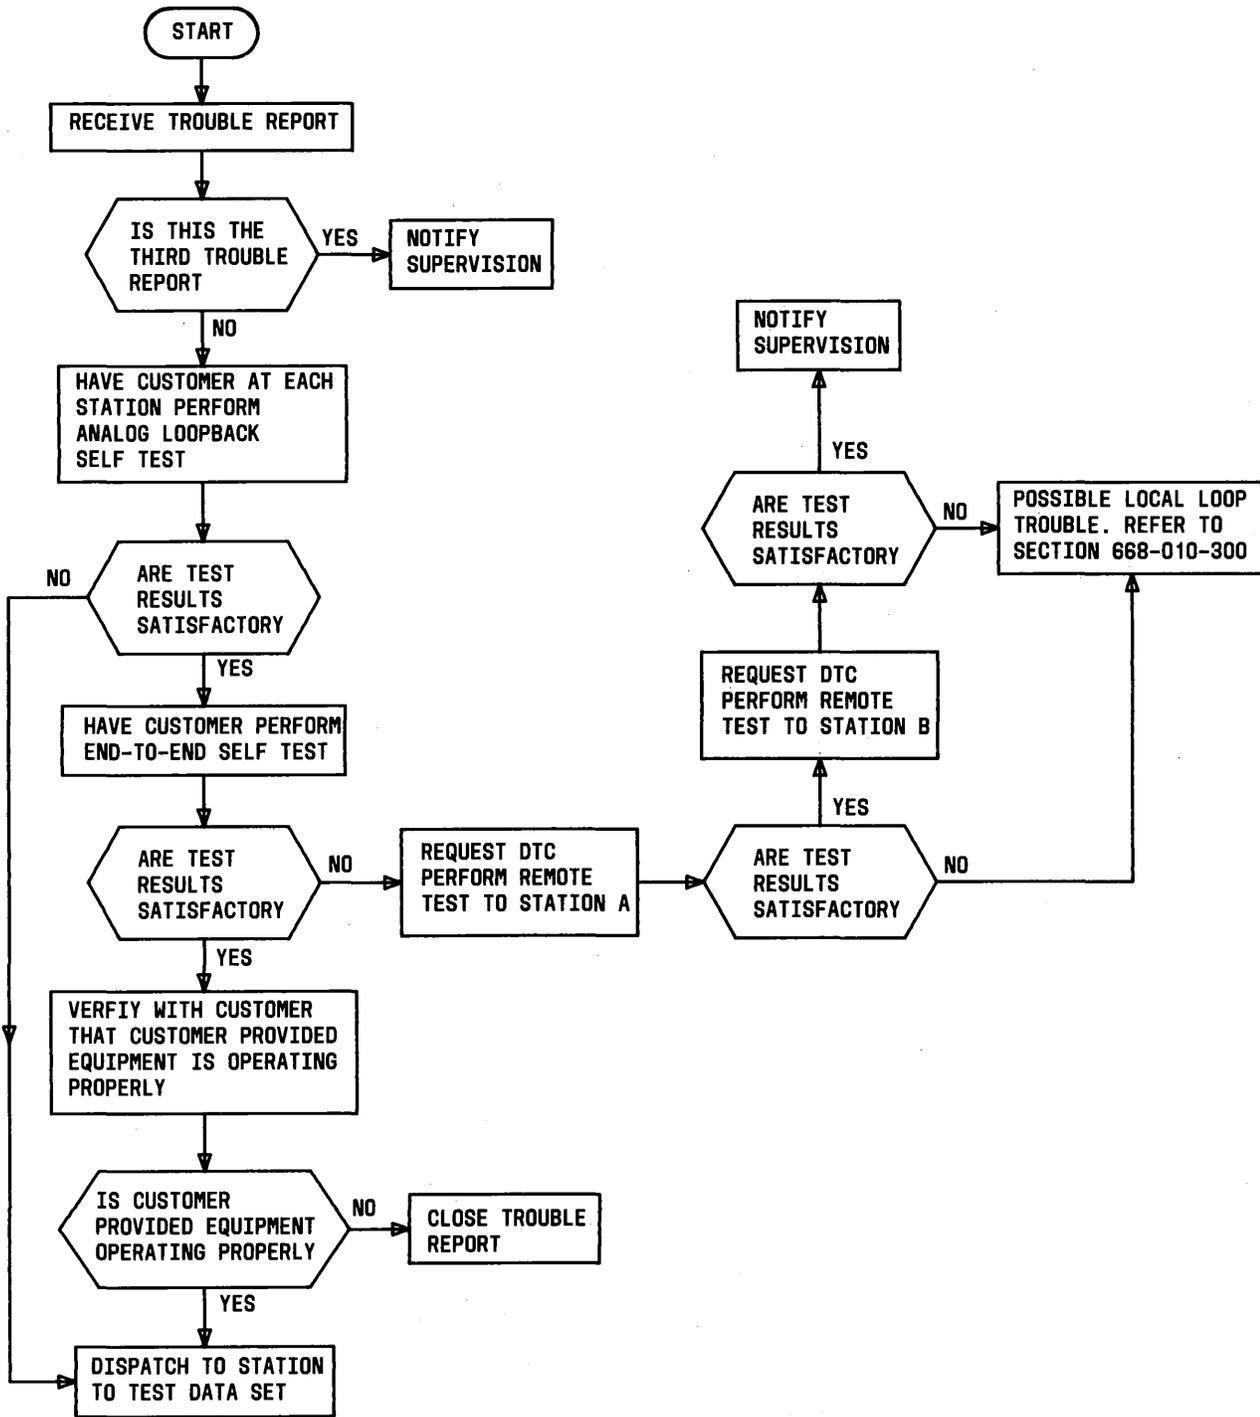

Fig. 3—Clearing Trouble Report
3.02 When a trouble report is received, a DTC is responsible for isolating the trouble to the data station or the transmission facility. The procedure for doing this is shown in Fig. 3.